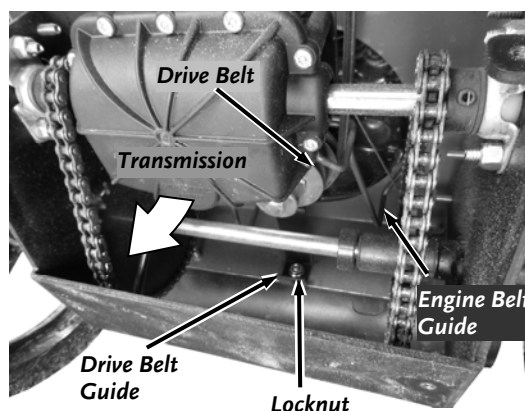

Figure 35
8. Loosen the rear Drive Belt Guide Locknut using a 7/16" Socket w/Ratchet and rotate the Guide out of the way (**Figure 35**).
16. Rotate the rear Drive Belt Guide into position centered behind the Engine Pulley and tighten the Locknut with a 7/16" Socket w/Ratchet (**Figure 35**).